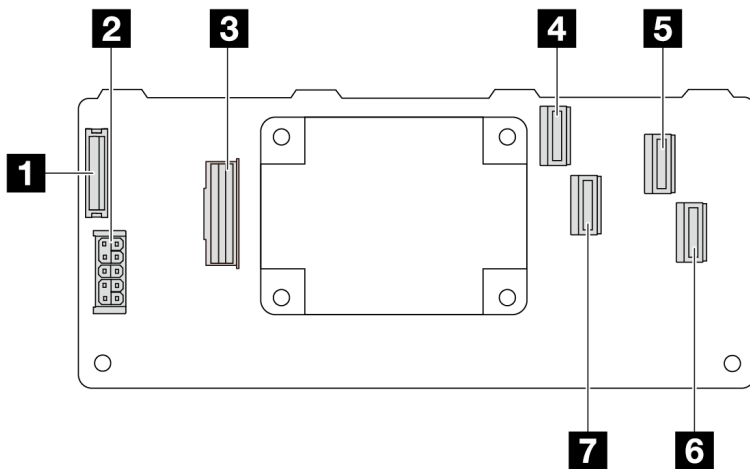

Figure 251. A Gen 3 16i CFF RAID adapter (four port connectors)
- Figure 251 “A Gen 3 16i CFF RAID adapter (four port connectors)” on page 284